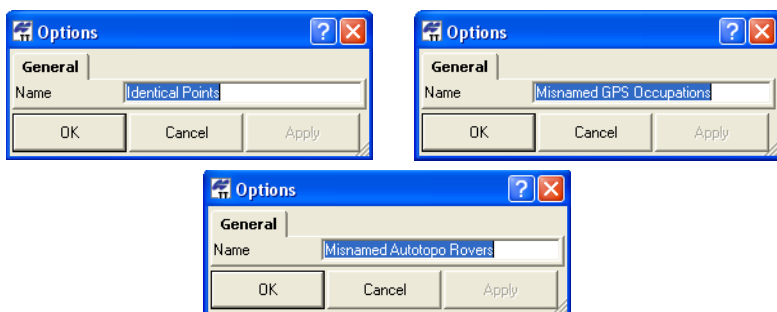

Figure 7-17. IEdit only Name in Report
- Identical Points Report, Misnamed GPS Occupations, Misnamed Auto topo Rovers – edit the name and click **OK** (Figure 7-17).